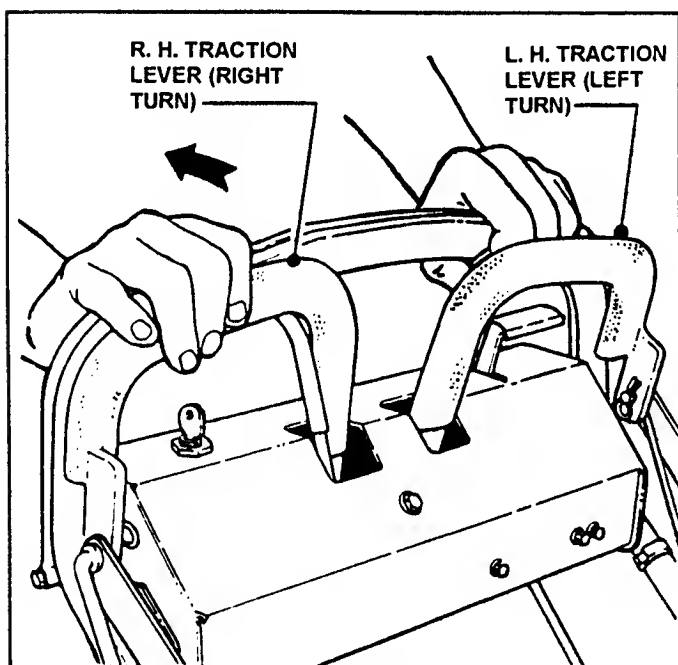
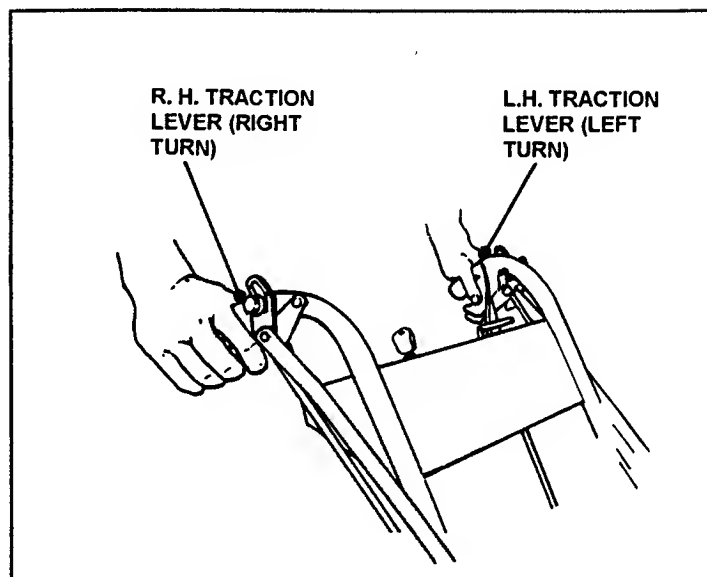

FIGURE 12
FIGURE 13
12. The mower is **TURNE**d by declutching wheel drive belts while engaging wheel brakes - turn left by squeezing the left hand traction lever or turn right by squeezing the right hand traction lever. See figure 12 looped handle, or figure 13 pistol grip. The more pressure applied while squeezing the traction lever, the sharper the mower will turn.